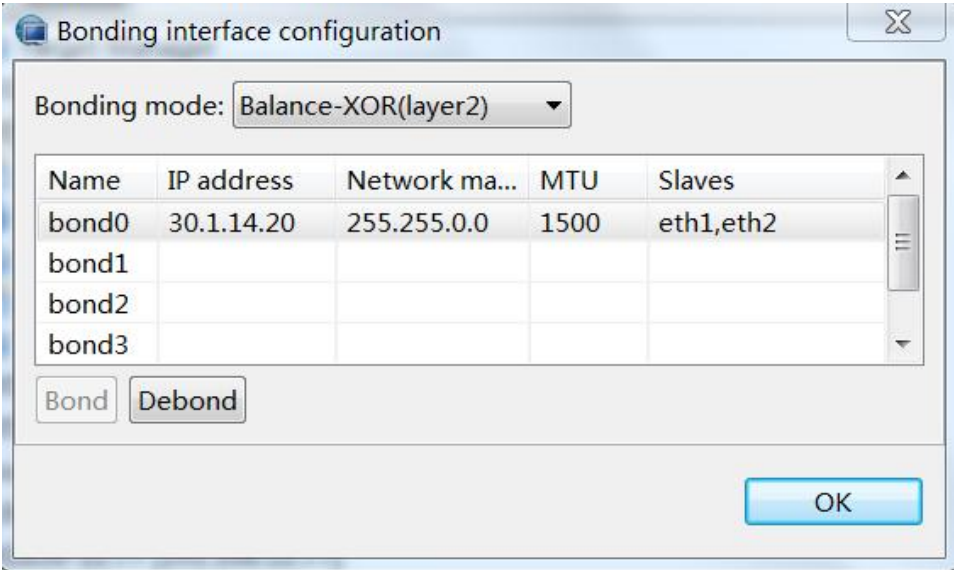
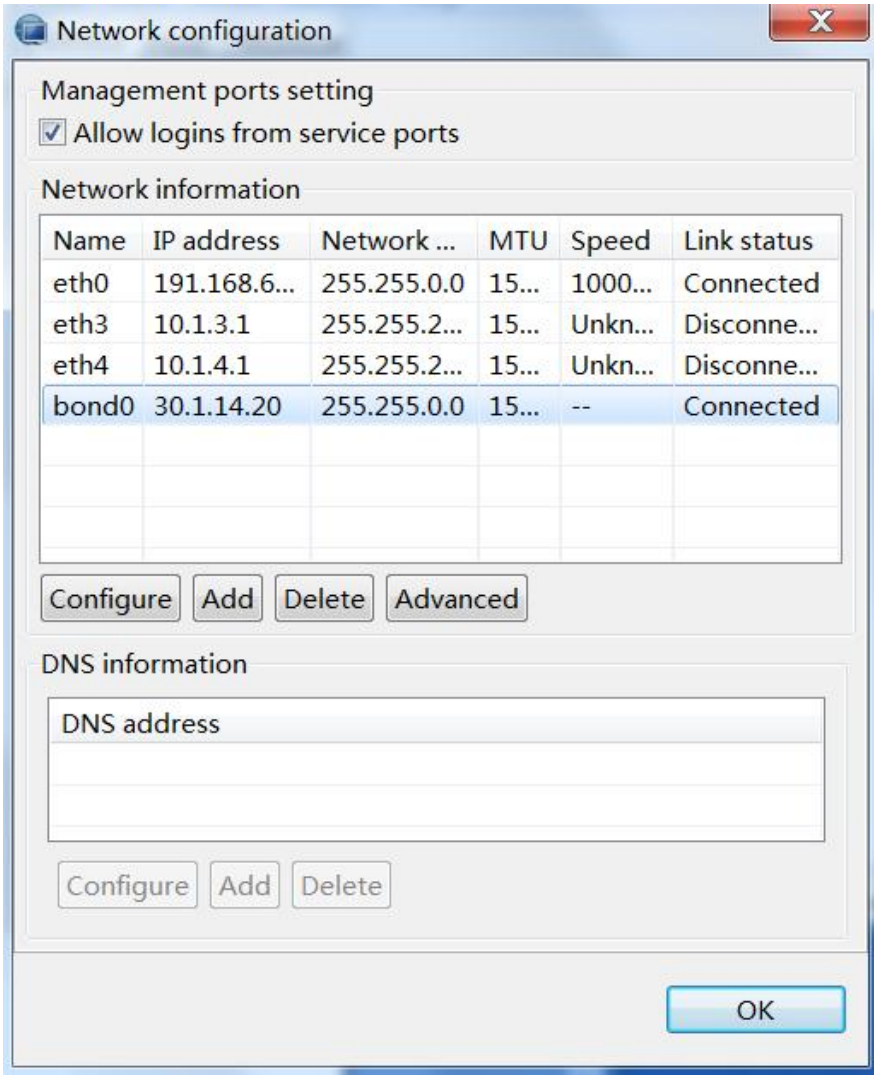

Figure 10-12 Selecting a network port for bonding 3
Figure 10-13 Checking bonding information 1
(5) Selecting the [System Maintenance > Network Configuration] menu item will show bonding information, as shown in Figure 10-12, or you can select the [System Maintenance > Network Bonding] menu item to check bonding information, as shown in Figure 10-13: